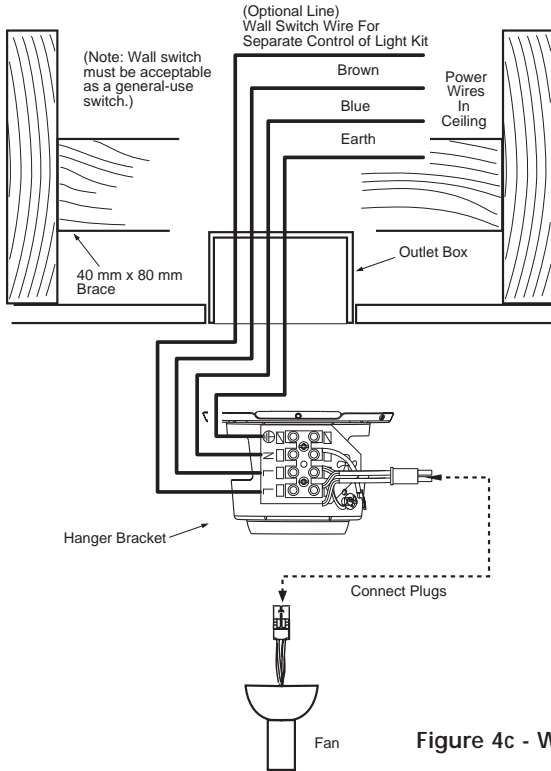

Figure 4c - Wiring Diagram
Use Figures 4c, 4d and 4e for reference in making the following electrical connections.
5. Connect the motor leads to the harness assembly attached to the hanger bracket and terminal block. See Figure 4c, 4d and 4e.